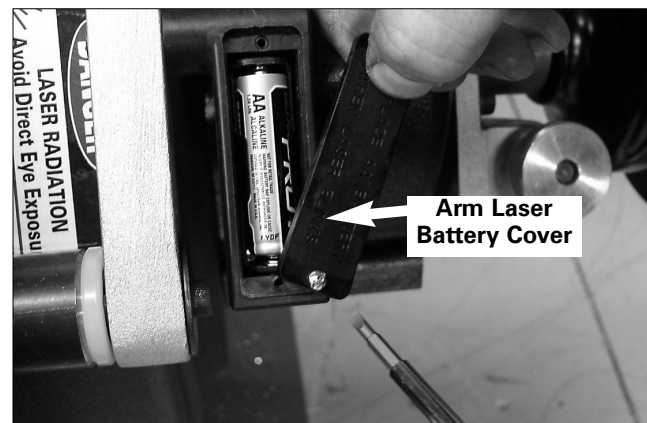

Figure 23 - Replacing Arm Laser Battery
**6.** To replace Arm Laser battery, remove cover (fig. 23). Discard old battery. Install a new battery and replace the cover.